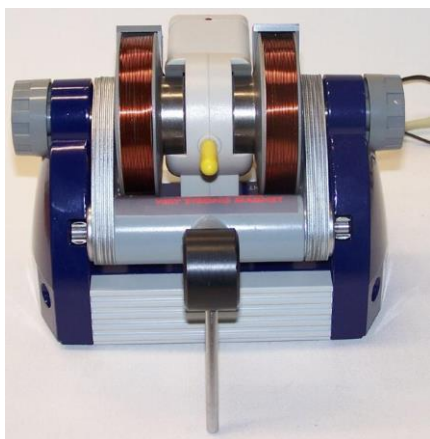

Fig. 9 Basic unit with glycerine sample inserted
- Insert the glycerine sample (yellow top) into the sample chamber (see Fig. 9).